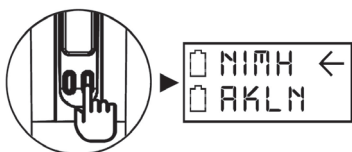

Figure 13
3. Press SET button to select either NiMH (rechargeable battery) or AKLN (alkaline battery) (Fig 13).